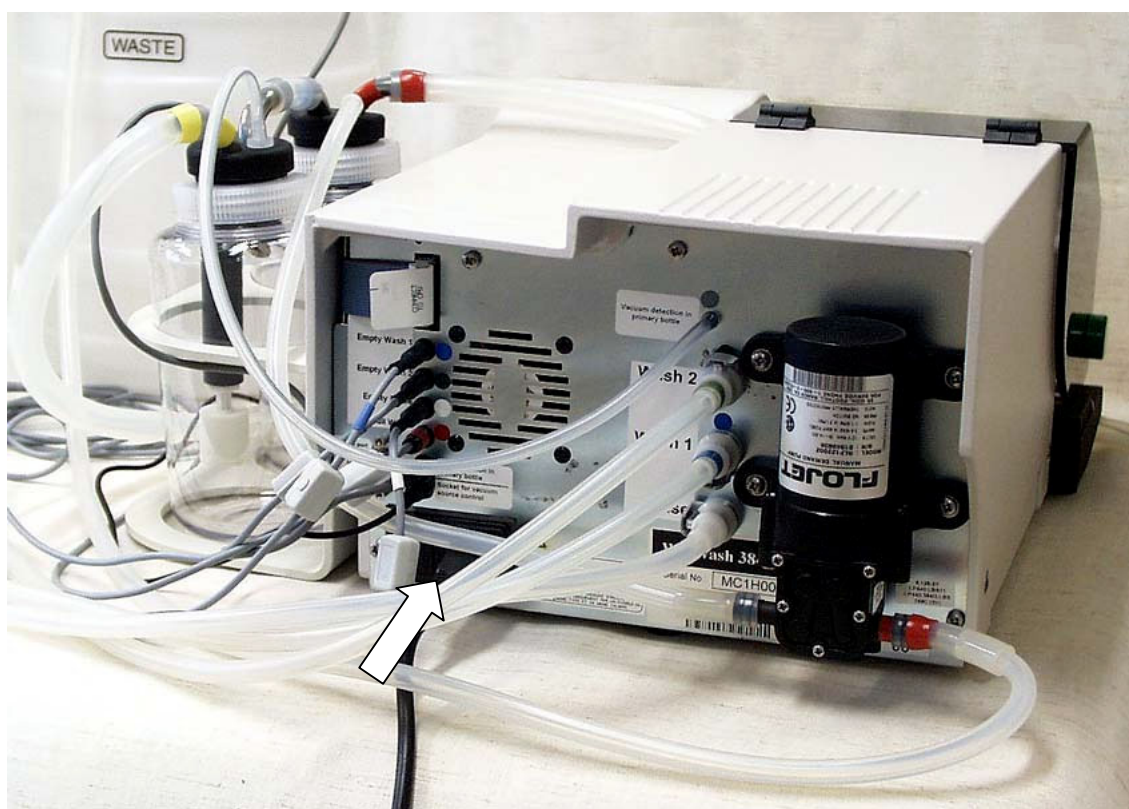

Fig. 5.7 Connecting the mains supply cable
2. Connect the mains supply cable to the mains power socket (*Fig. 5.7*) at the bottom of the back panel. If you need to use any other type of mains supply cable than supplied, use only cables certified by the local authorities.